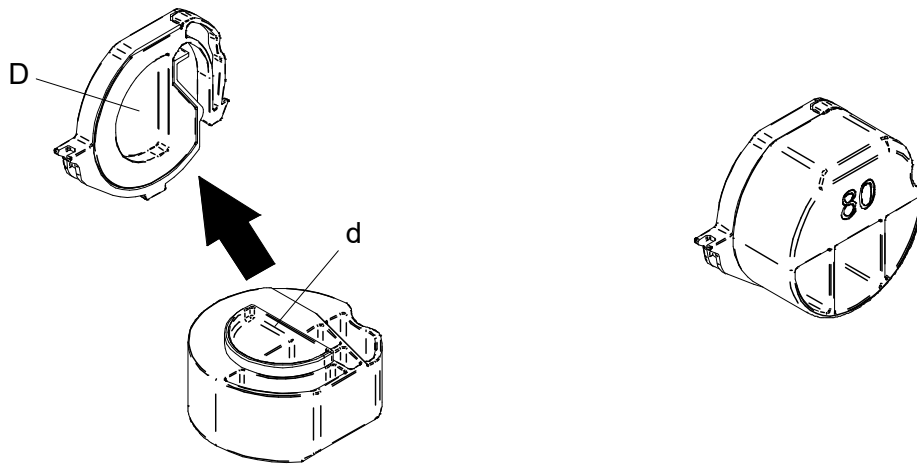

Figure 13-3 Combining Partition Plate with Attachment
- (1) Turn off the printer.
- (2) Remove the battery pack from the printer. When the AC adapter is connected, unplug the AC plug of the AC cable from an outlet.
- (3) Press the paper cover open button to open the paper cover.
- (4) Combine the part "D" of the partition plate with the part "d" of Attachment 80 as shown in Figure 13-3.